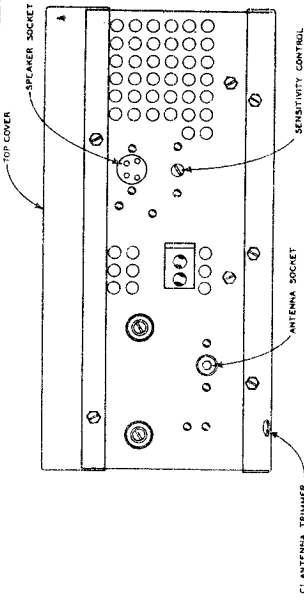

FIG. 4 BACK VIEW OF SET
3. Adjust the oscillator trimmer C-11, the RF trimmer C-7 and the antenna trimmer C-1 for maximum response, in the sequence given. (See Fig. 4 & 5 for trimmer locations.)
Note: The Model 6F2D is equipped with an adjustable sensitivity control located in the position indicated in Fig. 4. This control is properly adjusted at the factory to provide a sensitivity of 6 microvolts at one watt output. The factory adjustment of this control provides as high a sensitivity level as possible without introducing excessive background noise. No attempt should be made to change the setting of the control unless laboratory equipment is available for measuring sensitivity.